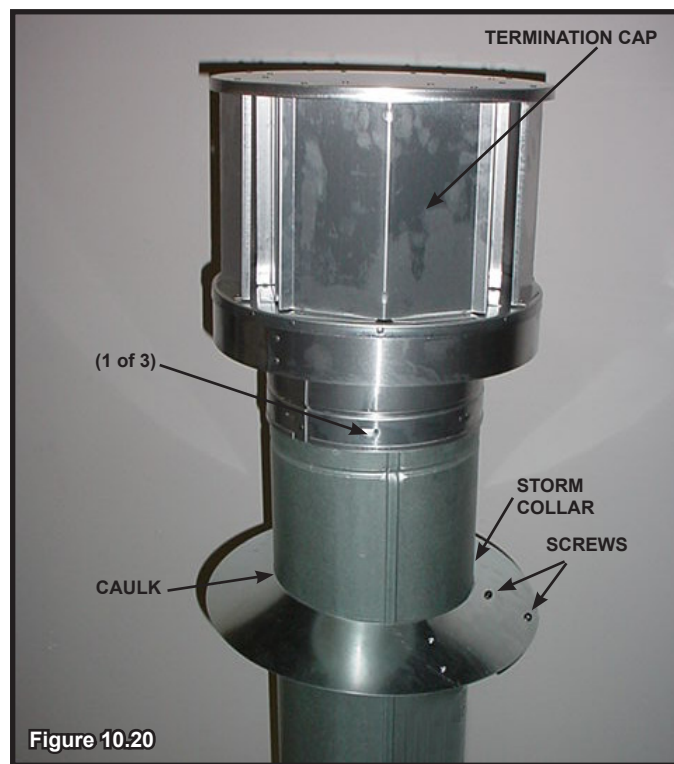

Figure 10.20
- Caulk around the top of the storm collar (see Figure 10.20).
- Secure the cap by driving three self-tapping screws (supplied) through the pilot holes in the outer collar of the cap into the outer flue of the pipe (see Figure 10.20).